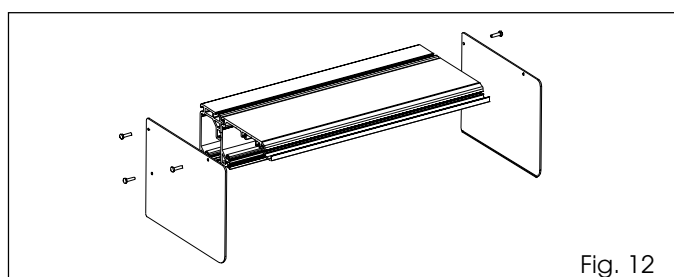

Fig. 12
•Fit the side panels as shown in figures 12 and 13.